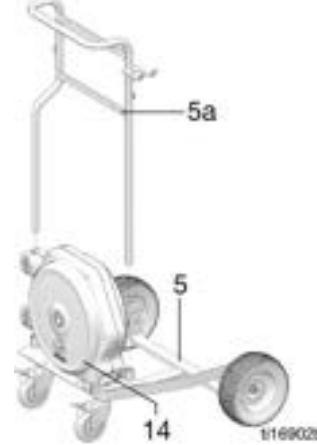

FIG. 30
1. Position the hose reel (14) on the cart frame (5) as shown in FIG. 30.
2. Install the handle sub-assembly (5a) on the cart frame (a) (FIG. 30).